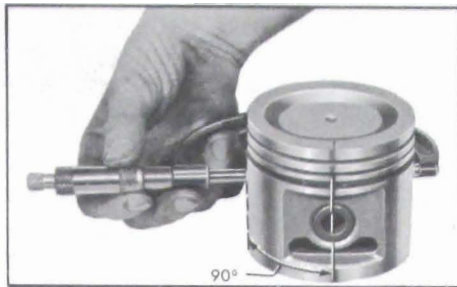

Figure 2-54—Measuring Piston
The pistons are cam ground, which means that the diameter at a right angle to the piston pin is greater than the diameter parallel to the piston pin. When a piston is checked for size, it must be measured with micrometers applied to the skirt at points 90° to the piston pin. See Figure 2-54. The piston should be measured (for fitting purposes) 1/4 below the bottom of the oil ring groove.
Before the honing or reboring operation is started, measure all new pistons with micrometer contacting at points exactly 90 degrees to piston pin (Figure 2-54) then select the smallest piston for the first fitting. The slight variation usually found between pistons in a set may provide for correction in case the first piston is fitted too free.
3. Measure the piston to be installed. See Figure 2-54. The piston must be measured at right angles to the piston pin 1/4" below the oil ring groove. The piston must be between .001" and .0015" smaller than the cylinder bore.